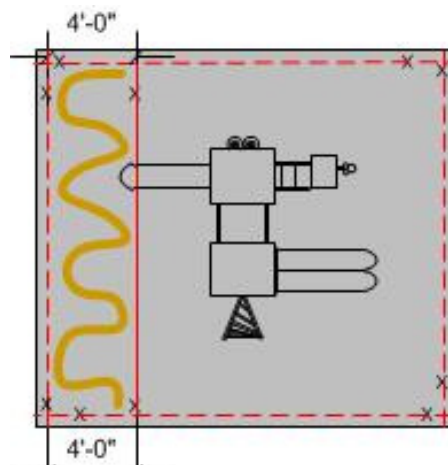

Fig.8
- Begin at the top and in a serpentine pattern pour out a liberal amount of adhesive while walking backwards (Fig. 8).
- With the glue dispersed in a pattern like Fig. 8 it is now time to spread the glue with the squeegee.